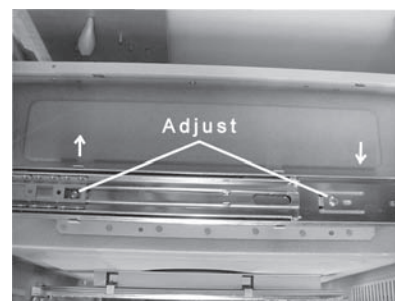

Fig. S-1
10. This is done by following the steps to remove the "DRAWER/SLIDE RAIL REMOVAL" on page 42. After you have removed the slide rails, loosen the "2" screws holding the slide rail to the Microwave cavity and tilt the front end up and the rear end down, then tighten the screws (**Fig. S-1**).